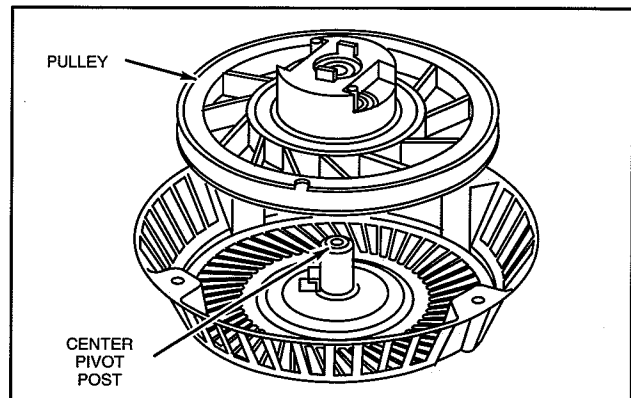

Fig. 12 – Install Pulley – Current Style
2. Assemble starter pulley and spring assembly to center pivot post in housing, Fig. 12.